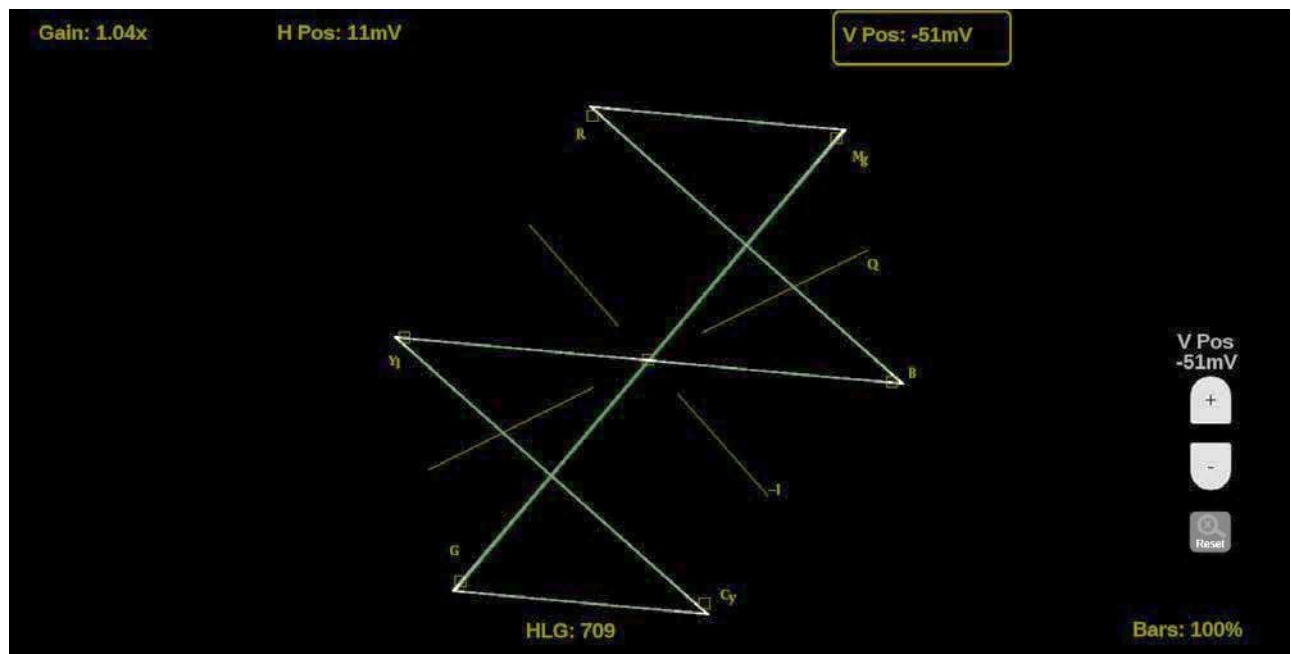

Figure 114: Vector on-screen tools – vertical position
2. Select the **V Pos** button to allow adjustment of the vertical trace. (See Figure 114.)